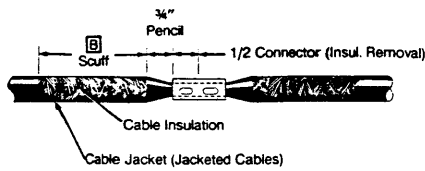

Figure 1
- Remove conductor insulations (and jackets if applicable) for 1/2 connector length (Figure 1).
- Smoothly pencil cable insulations for 3/4" (Figure 1).
- Scuff ends of insulation or jacket for Dimension B with coarse abrasive cloth provided. Remove all wax, dirt and dust from surface (Table 2 and Figure 1).